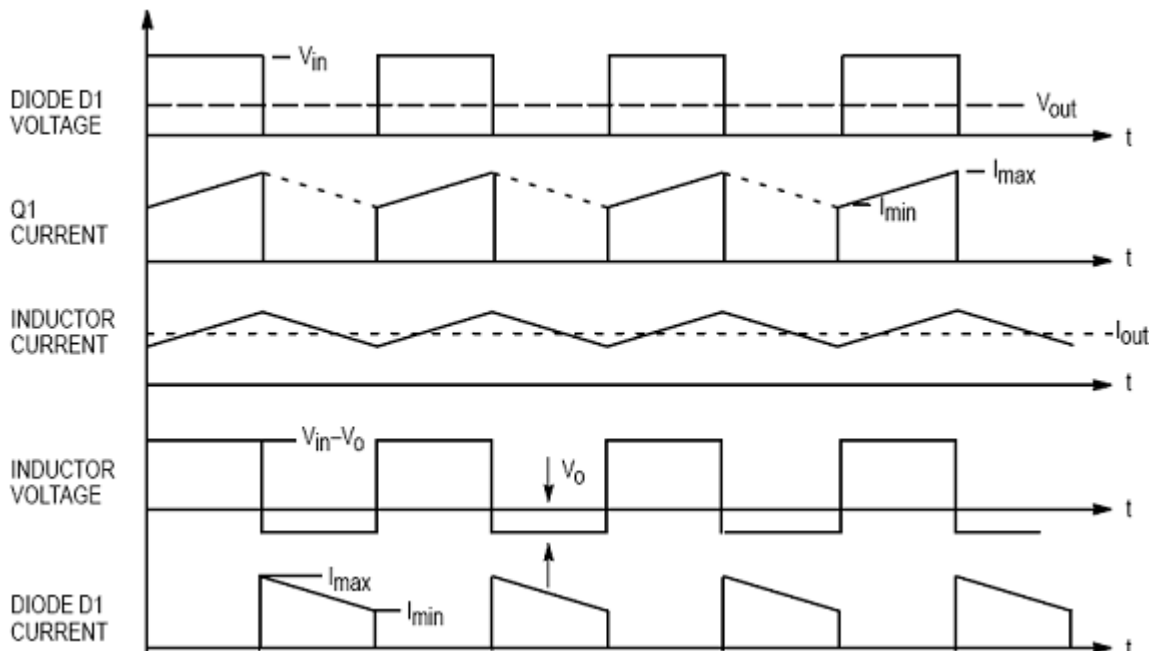

Figure 10.2: Buck Converter Waveforms
It means that if we somehow generate a waveform that's ON or OFF can be control; we will manage to control the output variable. Where, output variable is directly proportional to the duty cycle. Duty cycle can be generated with the help of Comparator or Astable multi-vibrator circuit. Figure 10.2 shows the typical waveforms of Buck converter.
2) Explain the second column of each row figure in fig. 10.2.